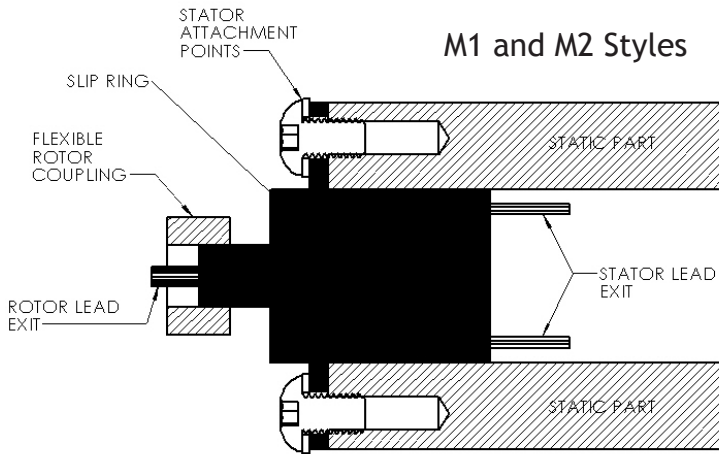

Figure 1
1. Flanged slip rings (M1 and M2 styles) are designed to be mounted with screws and washers as shown in Figure 1. The washers protect the flange against excessive forces. If lock washers are used, flat washers should be mounted between the lock washer and the flange.